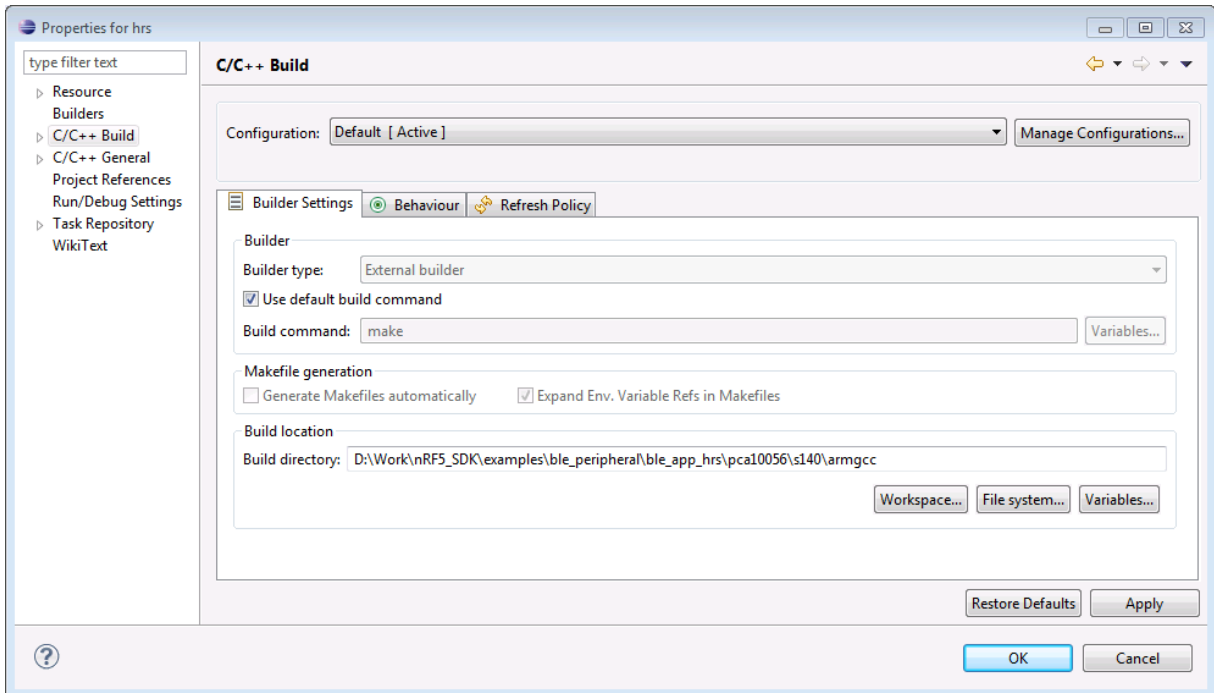

Figure 21: Adding Makefile location to project properties
11. Under the **Builder Settings** tab In the **Build directory** field, type the location of the Makefile that is used to build the project, e.g.: `D:\Work\hRF5_SDK\examples\ble_peripheral\ble_app_hrs\pca10056\ls140\armgcc` (Figure 21).